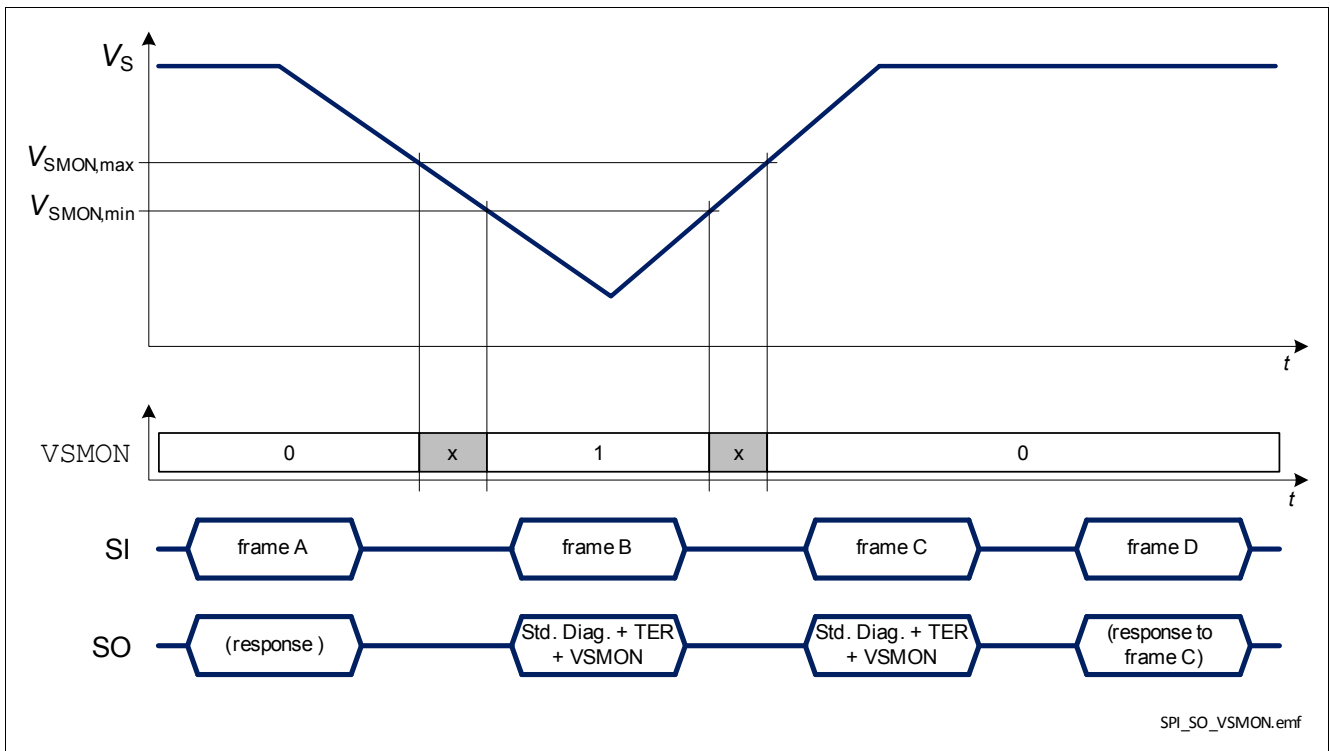

Figure 34 BTS54040-LBA response in case of a negative battery voltage transient
- when  $V_S < V_{SMON}$  and  $\text{DCR.MUX} \neq 111_B$ , as shown in **Figure 34**